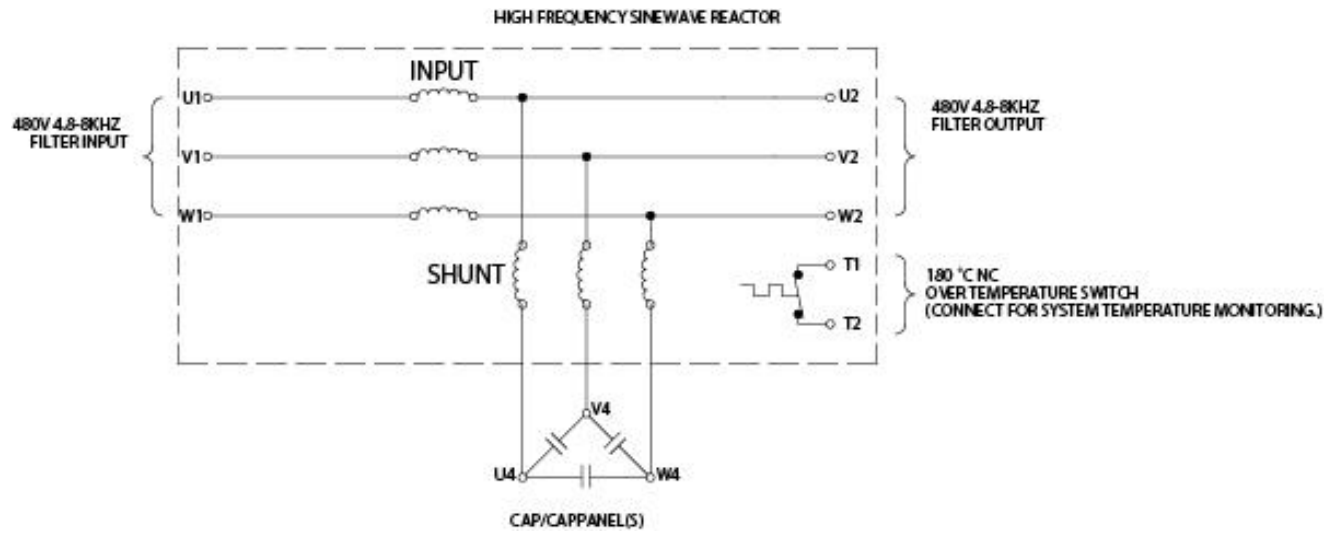

Figure 3-1: Basic Schematic Diagram
- Figure 3-1: Basic Schematic Diagram 9
Using Figure 3-1 (p9), visually check the wired components to confirm, verify, and correct wiring. Then, with a multi meter check phase to phase isolation using the 100 K ohm range. The multi meter will read the parallel equivalent of the bleeder resistors after the capacitors initially charge. All phase to phase resistance values should be the same.